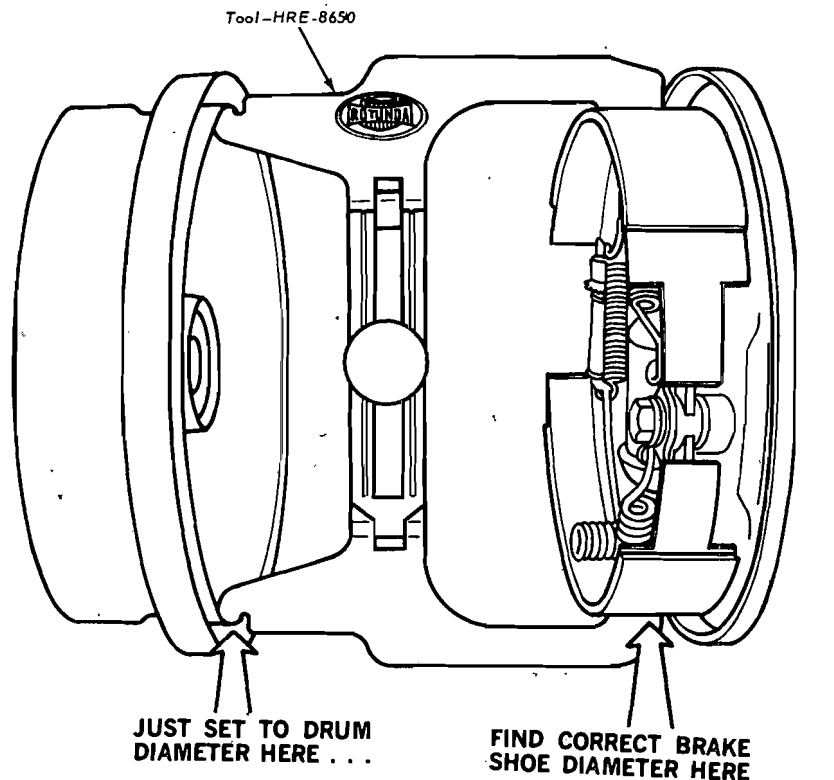

FIG. 5 Adjusting Brake Shoes Using Tool HRE-8650
1. Use Rotunda Tool HRE 8650, (Fig. 5) to determine the inside diameter of the drum braking surface.
2. Use the tool as shown in Fig. 5 and adjust the brake shoe diameter to fit the gauge. Hold the automatic adjusting lever out of engagement while rotating the adjusting screw, to prevent burring the screw slots. Make sure the adjusting screw rotates freely. If necessary, lubricate adjusting screw threads with a